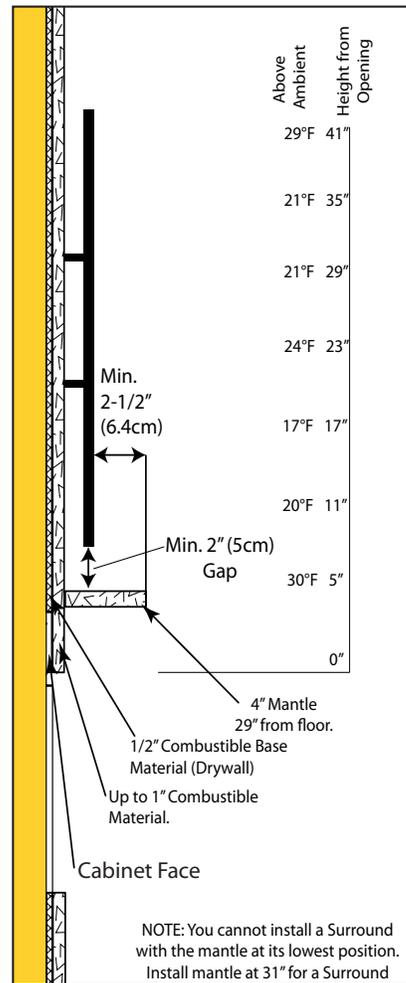

Figure 11: CSS TV - Mantle
**During testing temperatures did not exceed 121°F (49°C) midway up the front wall (see figures on right).** There is no guarantee that these temperatures will not harm the longevity of your TV. Make sure to consult your TV manufacturer's specifications to find the maximum allowable operating temperature. Since every home and installation is unique, temperatures should be verified at the time of install if possible. If desired, front wall temperatures can be lowered to 104°F (40°C) with the use of a mantle (see figure 11). Refer to the Mantle Clearances section on the first page of this guide. A TV should not be installed if temperatures exceed the manufacturers maximum allowable temperature.